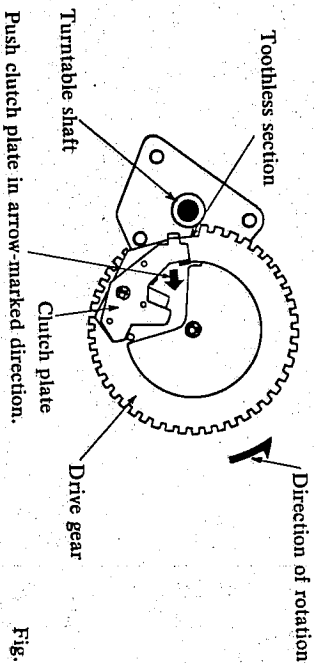

Fig. 5
- a) Attach the turntable to the turntable shaft. Then hold the belt and put it on the motor pulley. Make sure not to twist the belt. (See Fig. 5)